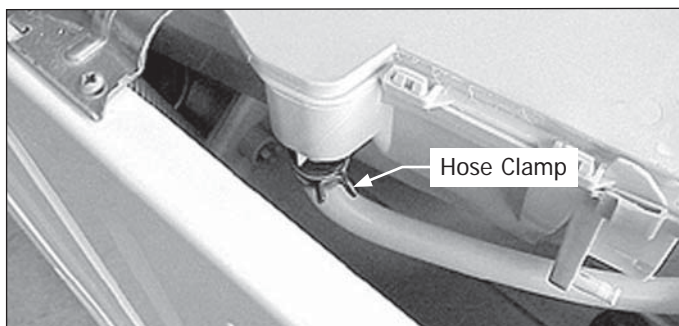

Figure 4-67.
9. Disconnect the advanced rinsing technology hose. (See Figure 4-67)